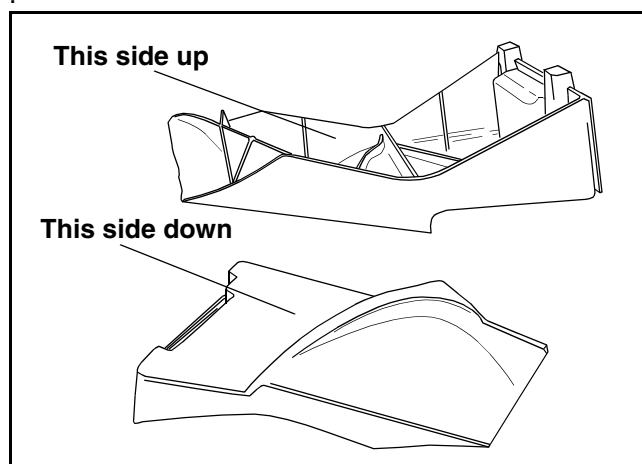

Figure 10
The mulching Plug is used only for mulching purposes. Instead of collecting grass clippings in a grass catcher, this mower has the option of recirculating the clippings back to the lawn. Refer to Figure 10.
- For the correct orientation when installing see Figure 10